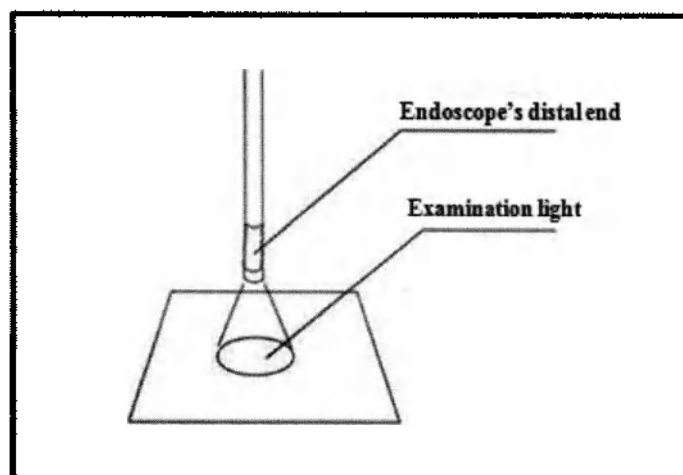

Fig 3.8
2. Confirm that Examination light is emitted from the LCD light on distal end of the endoscope. (Fig 3.8)